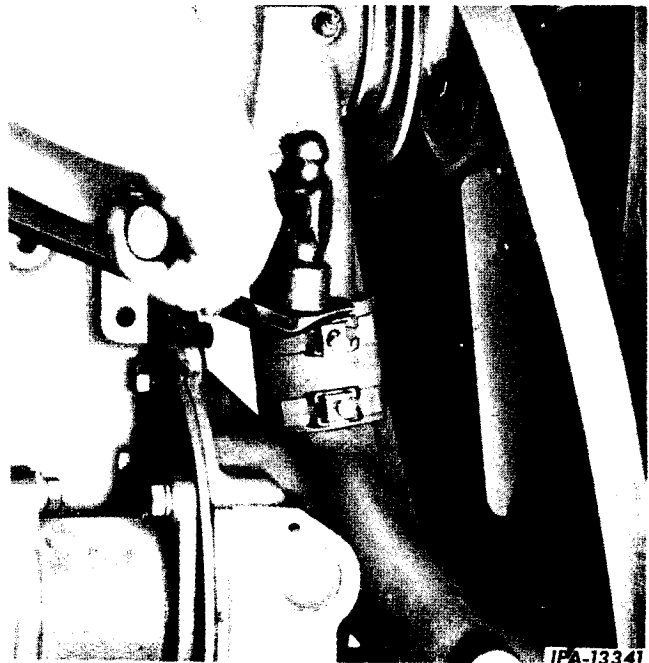

Fig. 13 - Driving Hose Down From Water Pump Body.
2. Loosen the hose clamps and push the hose down (Fig. 13).